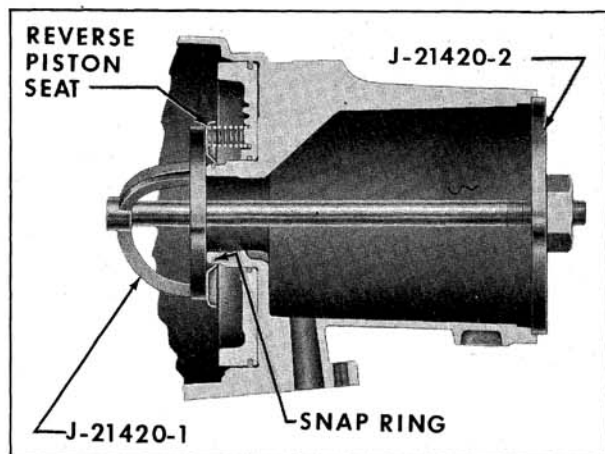

Fig. 6-490 Installing Snap Ring
4. Using J-21420-1 and J-21420-2 compress piston return seat so snap ring may be installed with J-5586 Pliers. (Fig. 6-490)